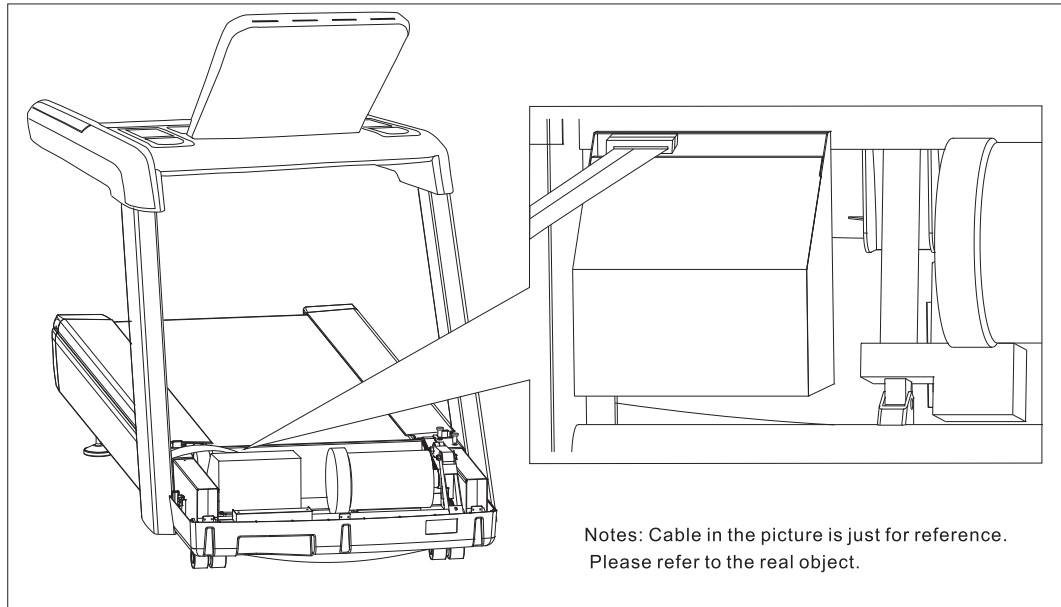

Figure 7
(10) Plug the electrical connectors at the lower part of right upright pole into the corresponding sockets inside the electrical enclosure of the equipment and then test if it works properly. (See Figure 7)